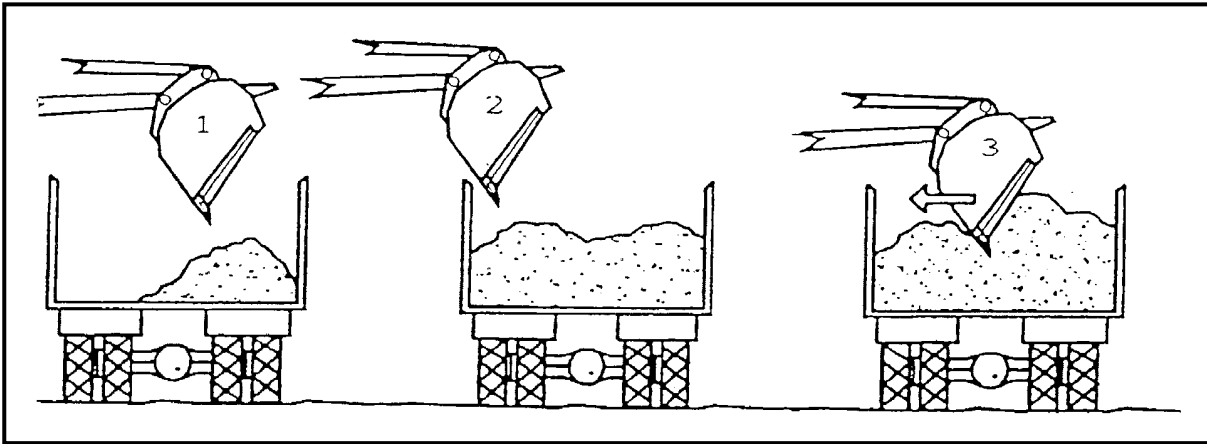

Figure 7 LOADING TECHNIQUES
- Both the forward reverse and turning are controlled by one joystick (Figure 7).